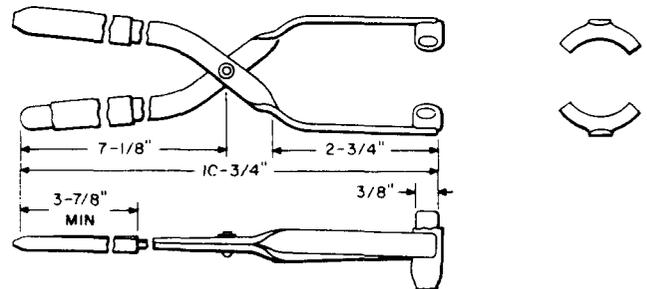

Fig. 5—KS-5637, L1, Tube Extractor
2.05 **KS-5637, L1:** The KS-5637, L1, tube extractor (Fig. 5) is used to extract 373A and 374A electron tubes from K2 carrier telephone equipment panels.